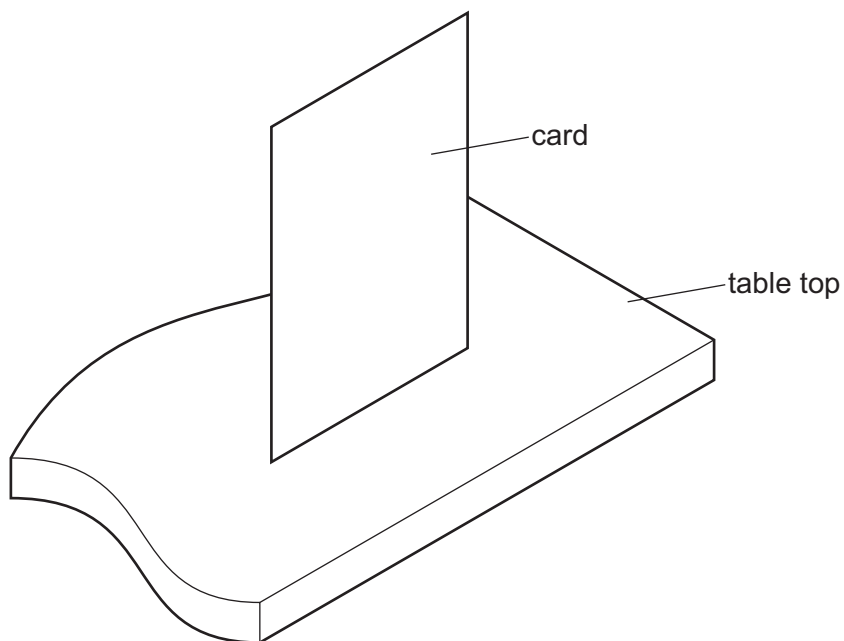

Fig. 2
- 4 Use notes and sketches to show how the piece of card in Fig. 2 can be modified to be self-supporting and allow the card to support a compressive load. No additional materials should be used.